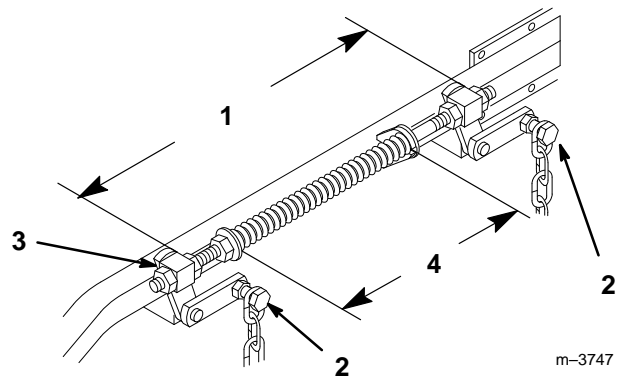

Figure 43
6. Loosen four (4) top chain bolts in slots. Check the length of the rod/swivel assemblies. Distance from outside of rear swivel to outside of front swivel should be 20-1/4" (514 mm) (Fig. 43). Make sure that all four swivels move freely in holes.
8. Lift up on four (4) top chain attachment bolts, in the slots, to take slack out of chains and tighten flange lock nuts. (Deck is still supported by two rear and one front blocks under mower)
2. Springs are compressed so the distance between the two large washers should be 11-1/2" (292 mm) (Fig. 43).
3. Adjust by turning nut in front of each spring (Fig. 43). (clockwise will shorten spring, counter-clockwise will lengthen spring)